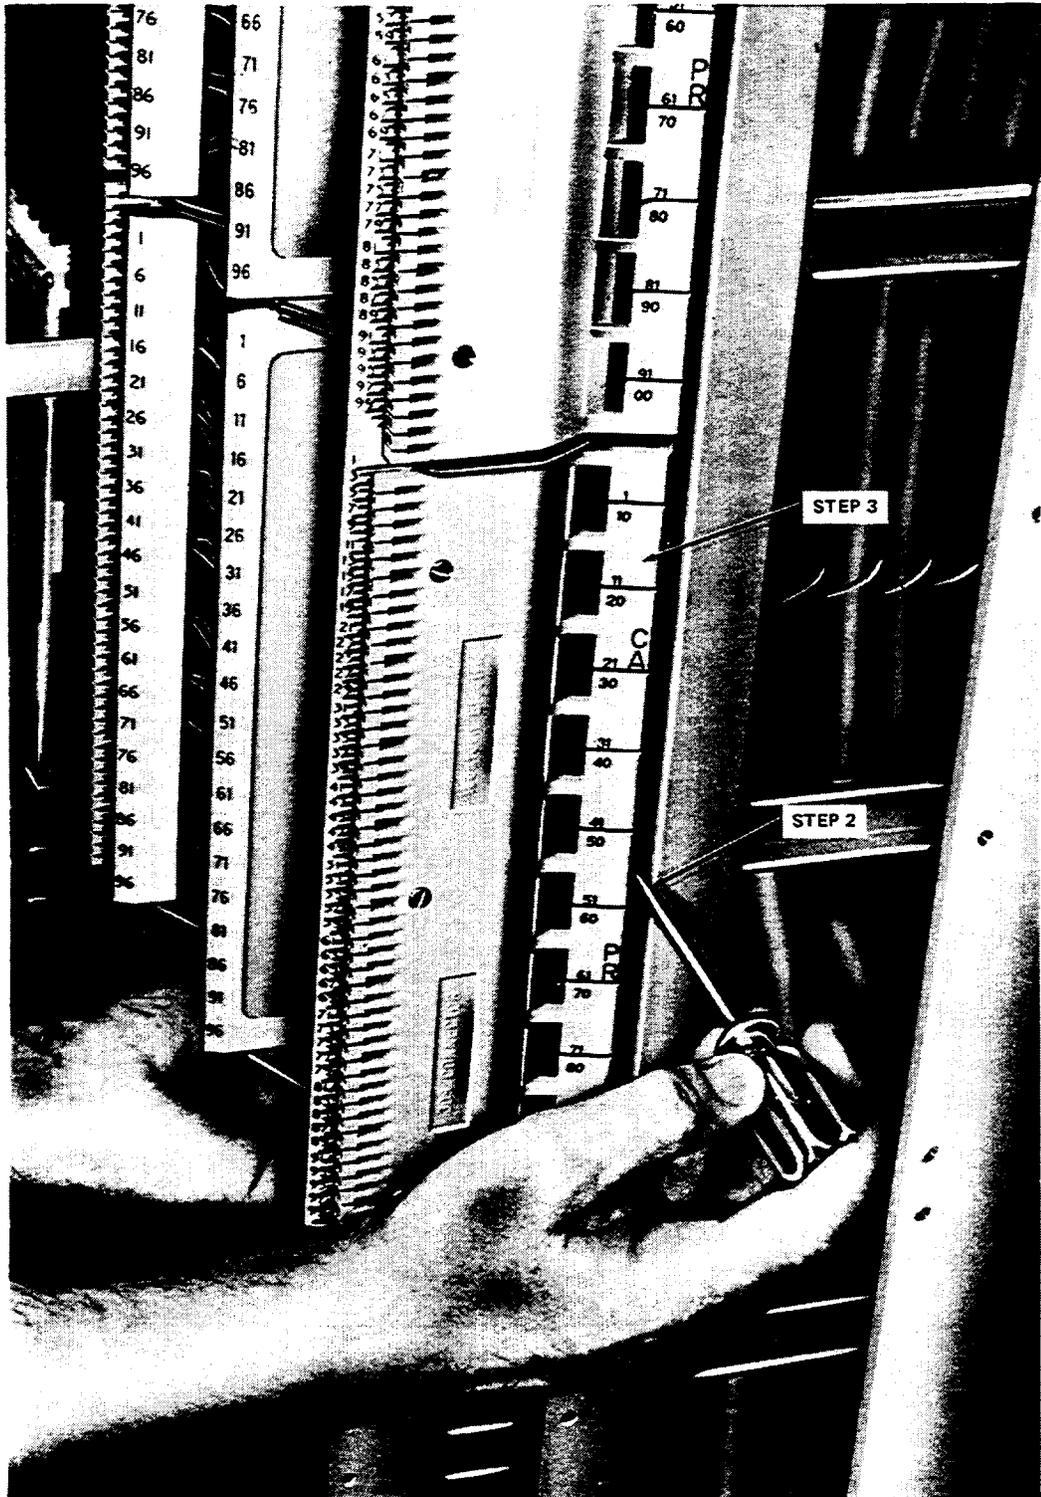

Figure 14—Aligning Mounting Screws Onto Frame (Right Connector)
- (1) See Figure 14 for the number that corresponds to the following step.
- (2) Align the slots of the **right** 309-type connector with the mounting holes in the frame. Loosely